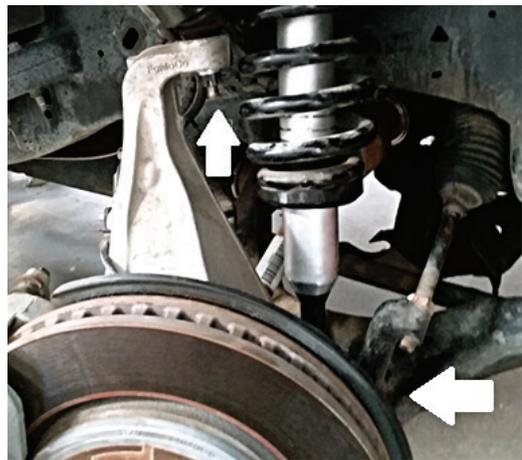

Figure 2: Front suspension (left side shown)
- 3b. Disconnect upper arm ball joint from spindle (Figure 2).
- 3c. Disconnect steering linkage from spindle by loosening the ball joint nut (Figure 2). Swing the steering link out of the way.